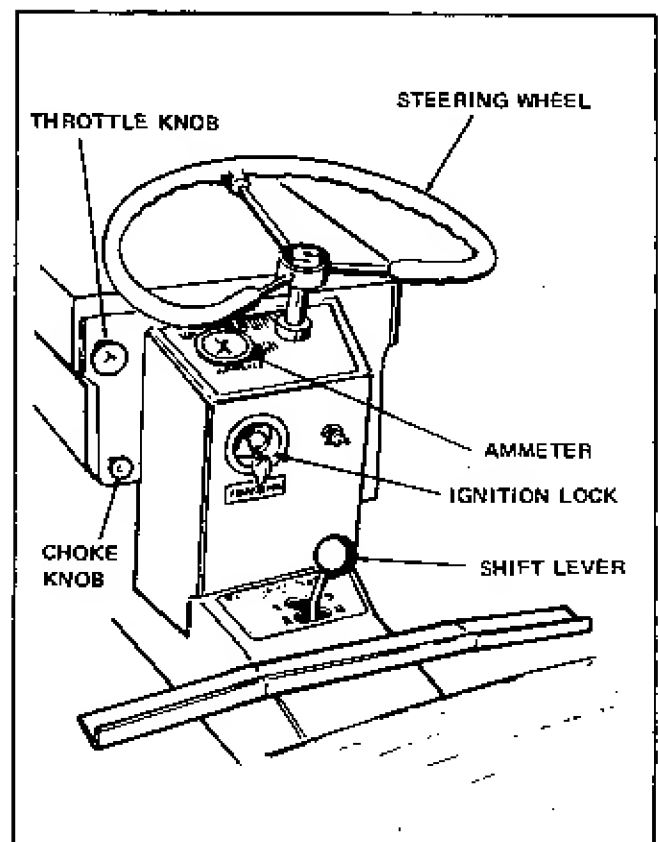
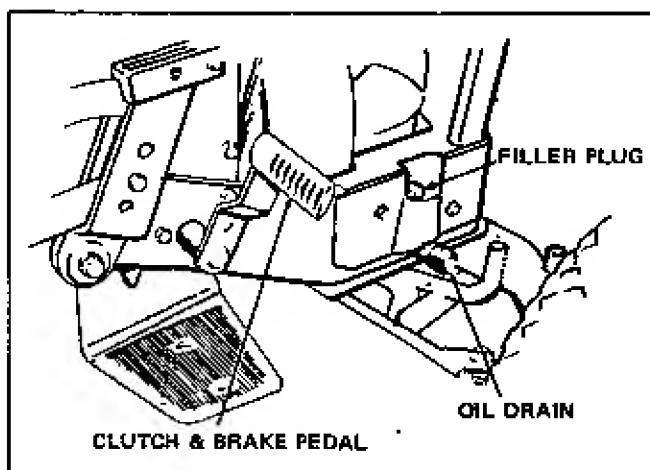

Figure 9
Figure 11
Service air cleaner and crankcase as recommended in Engine Service Manual. Be sure air cleaner is maintained in clean condition. Never use oil in crankcase for more than 25 hours of operation. See Figure 11. **CLEAN AIR AND CLEAN ENGINE OIL WILL GIVE LONG TROUBLE FREE OPERATION. DIRT WILL RUIN YOUR ENGINE IN A SHORT TIME.** A funnel and extension are included with the tractor for use in changing oil.
1. Place gear shift lever in neutral position. See Figure 9. (Be sure tractor is on level ground and will not roll away in neutral. Apply parking brake).
2. Pull choke knob out. See Figures 9 & 10.
3. Set throttle lever in mid position and turn ignition key clockwise to start engine and release. See Figure 9. As engine warms up, push choke knob in. Pull throttle knob out to desired position and turn to lock.
To place gear shift in desired gear range, depress the combination brake and clutch pedal located on right hand side of tractor. See Figure 11. When pedal is depressed, move shift lever to desired position (See Figure 9) and gradually release pedal until clutch is engaged. When shifting from one range to another, pause briefly in neutral before completing shift. Set throttle lever to obtain desired speed. See Figure 9.